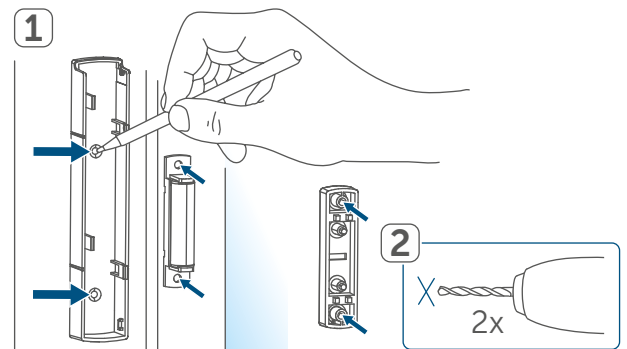

Figure 9
- Detach the bracket (A) from the electronic unit (B) by sliding it downwards and removing it to the rear (→see figure).
- Insert two new 1.5 V LR03/micro/AAA batteries into the battery compartment (F), making sure that you insert them the right way round (see figure 9).